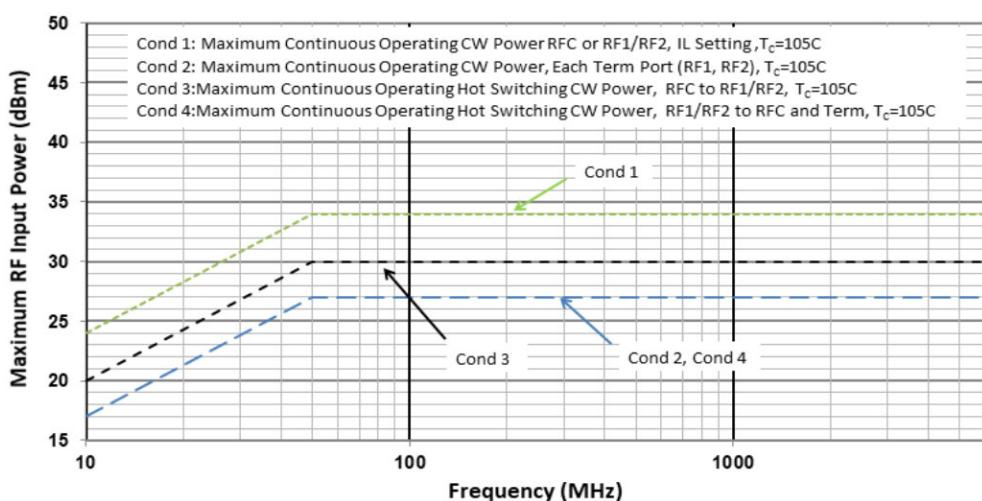

Figure 3. Maximum RF Input Operating Power vs. Frequency
1. Levels based on: $V_{DD} = 3.1V$ to $5.25V$, $250MHz \leq F_{RF} \leq 10GHz$, $Z_S = Z_L = 50\Omega$. See Figure 3 for power handling derating vs. RF frequency.